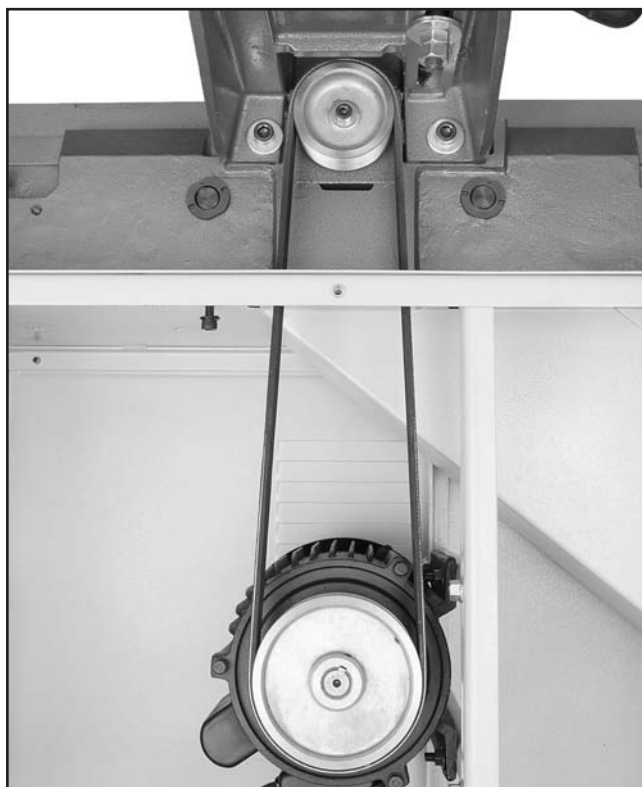

Figure 16. Ribbed V-belt installed.
19. Wrap the ribbed V-belt around the cutterhead and motor pulleys, as shown in **Figure 16**. Make sure the ribs of the V-belt are seated in the pulley grooves.